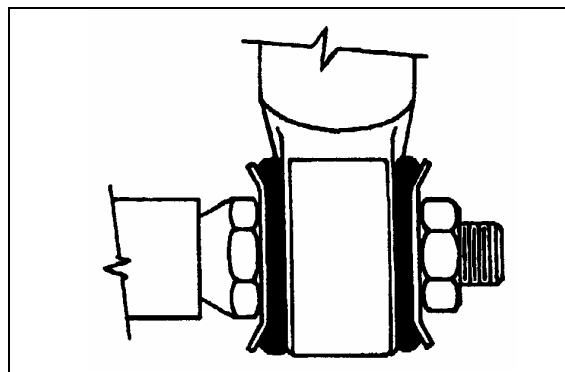

FIGURE 5: TYPICAL SHOCK ABSORBER SETUP
| FIGURE 5: TYPICAL SHOCK ABSORBER SETUP | 16-6 |
3. Place the inner washers (with washer convex side facing the shock absorber rubber bushing) on each shock absorber pin (Fig. 5).